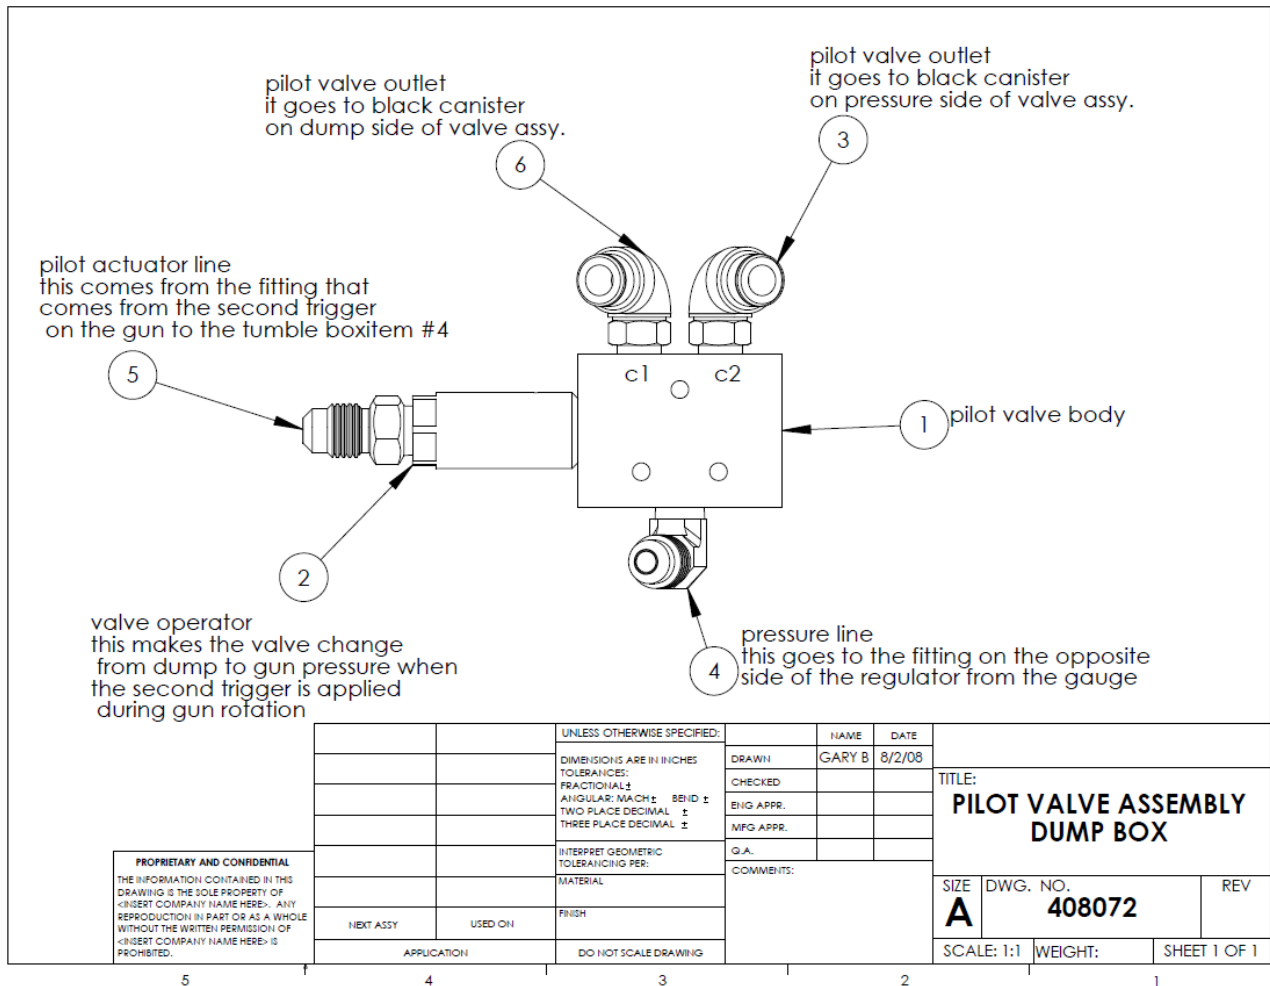

Figure 5: Drawing 408072 Pilot Valve Assembly Dump Box
- Remove the hose from location #6 in drawing 408072 (ref: figure 5) – remove either at the pilot valve or at the black canister on the dump side of the tumblebox.
- Replace all hoses per drawing 408072 (ref: figure 5).